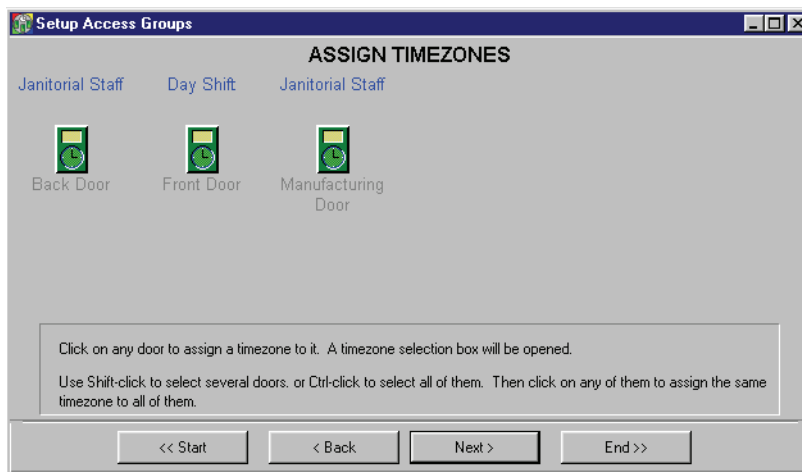

Figure 3-44: Access Group Time Zones for the Edited Doors
- Once all changes have been made, click on the  button and the Assign Timezones window appears (see Figure 3-44).
- Continuing on from Figure 3-44 on page 52 of this section using the example of changing the time zone on an access group door, click on the door to be changed.